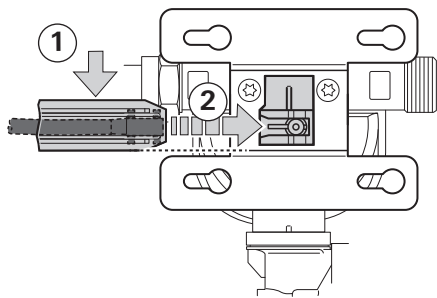
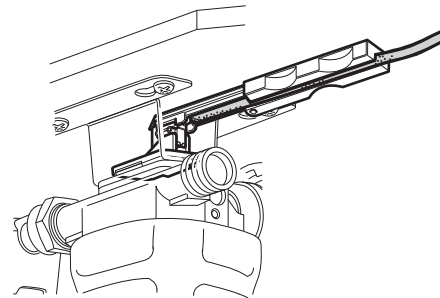

Fig. 7
Fig. 8
- ▶ The support for the transmitter is attached off-centre between the metal brackets (Fig. 7). Therefore, place the installation aid with transmitter and cable parallel to this on the inside of the lower metal bracket (Fig. 7 – Step 1).
- ▶ Slide the installation aid with transmitter and cable towards the support (Fig. 7 – Step 2) until the transmitter engages in the support (Fig. 8).